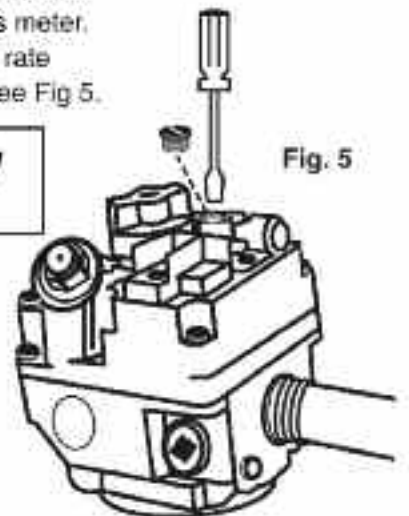

Fig. 5
• Adjust gas valve pressure regulator, if necessary, to change output rate (turn counterclockwise to decrease pressure and decrease output, see Fig 5.